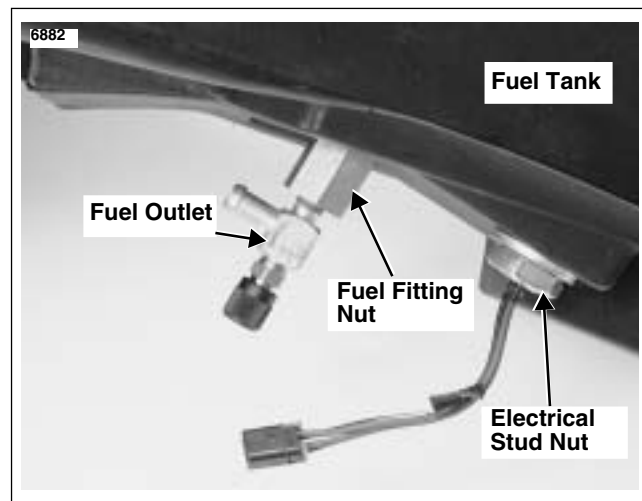

Figure 1. Fuel Outlet Fitting (original setup)
13. See Figure 1. Remove nut and washer from electrical outlet stud on bottom of fuel tank. Discard washer.
19. See Figure 1. Hold fuel fitting nut and rotate the fuel outlet into the fuel fitting nut until the fitting points toward the rear of the motorcycle (opposite of the way shown).